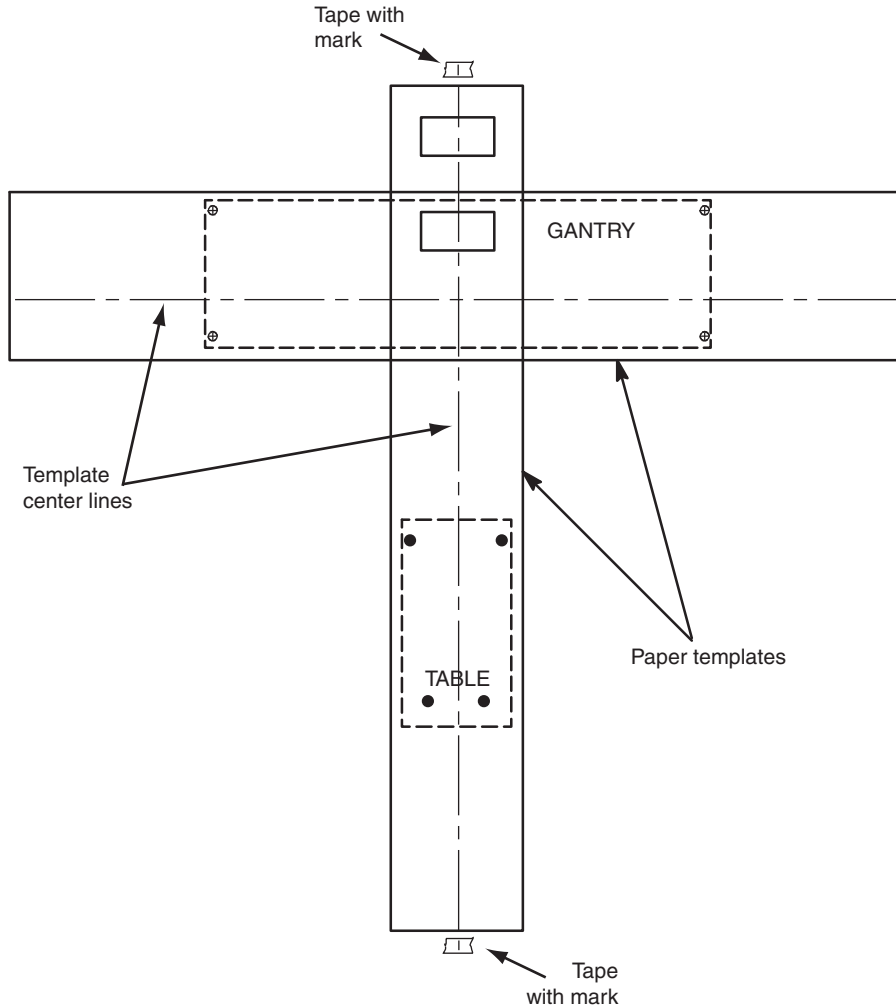

Figure 1-5 Center Line with Marks
- 9.) Use a center punch to mark hole centers for each of the eight (8) leveling pad/anchor locations per Figure 1-5. Before moving on to the next step, see Step 11 and its note for an alternative method.